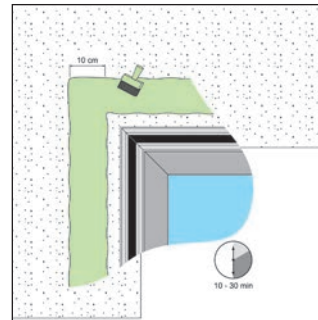

Figure 1
- Apply primer onto porous materials using brush or roller to the whole of the final bonded area (Fig.1).